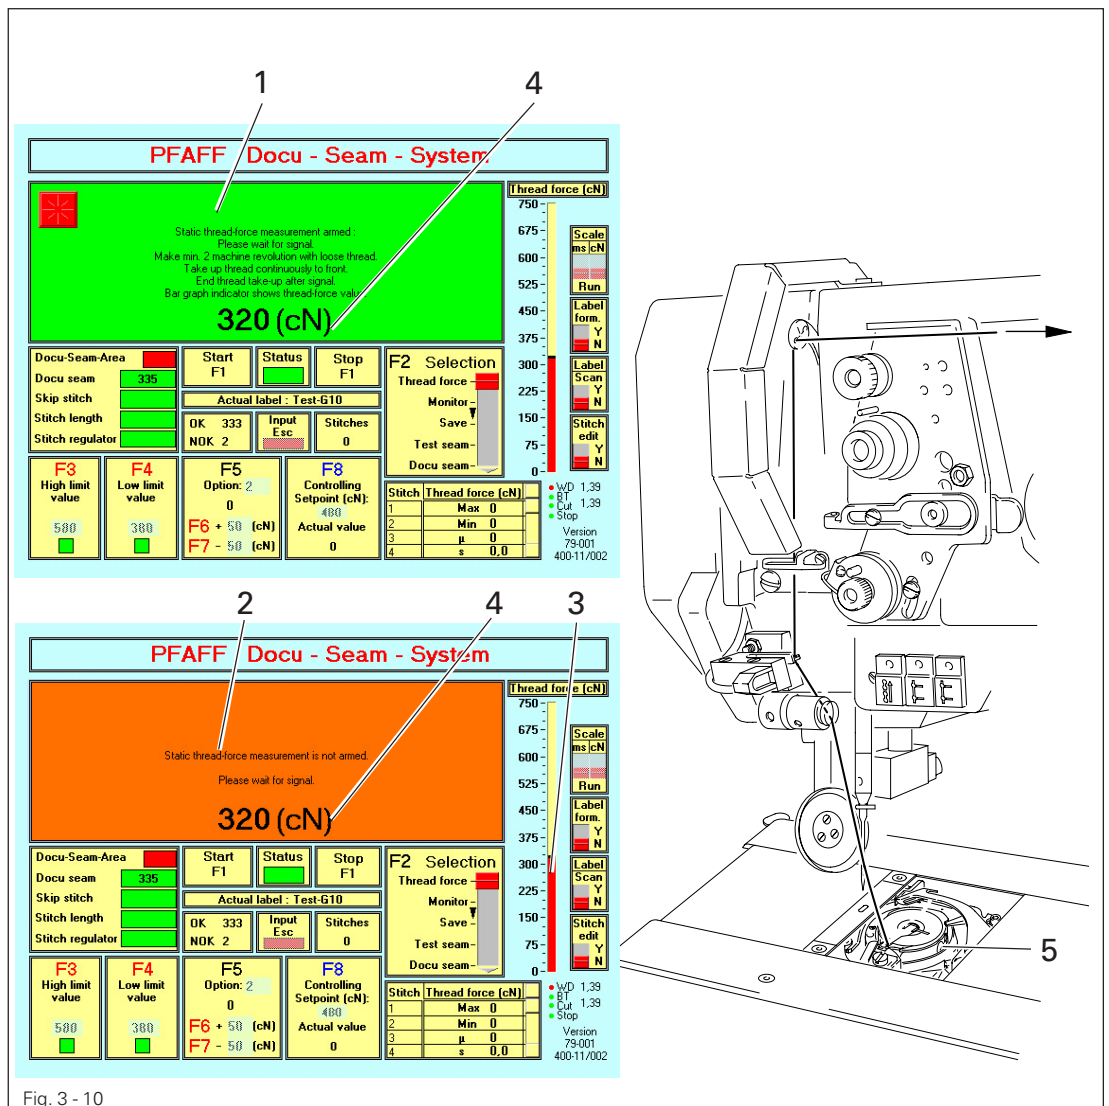

Fig. 3 - 10
- Set the measuring range for the thread force at 100 cN (see Chapter 3.07 Display functions point 26 and 27, Fig. 3 - 08).